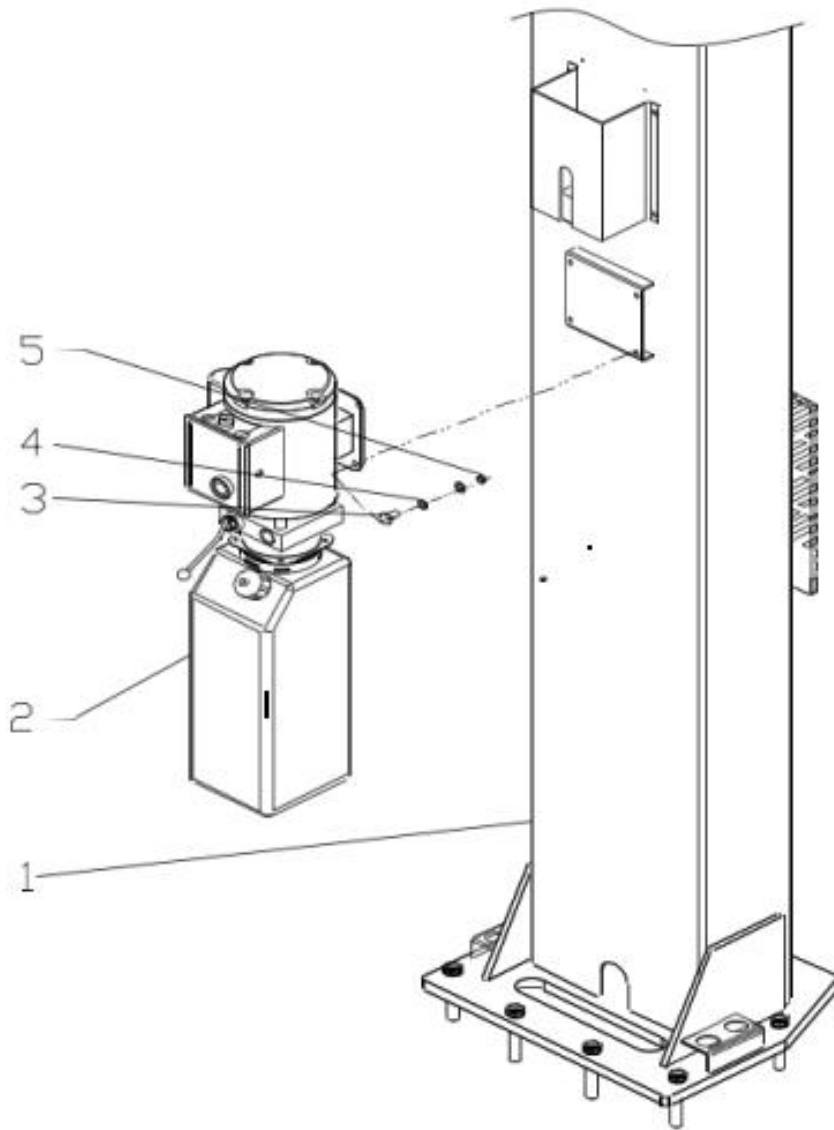

Fig. 36
L. Install power unit (See Fig. 36)